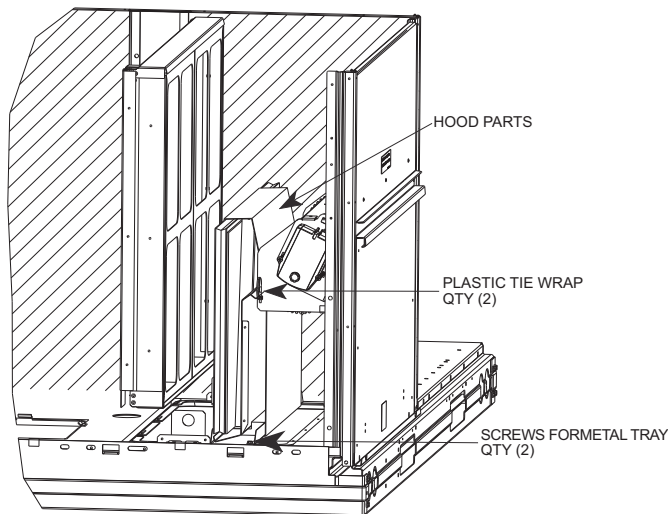

Fig. 14 — Two-Position Damper Hood Package Location
3. Locate the (2) screws holding the metal tray to the basepan and remove. In order to remove the screws, it may be necessary to remove the panel underneath the two-position damper. Remove the two screws. Locate and cut the (2) plastic tie-wraps securing the assembly to the damper. (See Fig. 14.) Be careful not to damage any wiring or cut tie-wraps securing any wiring.